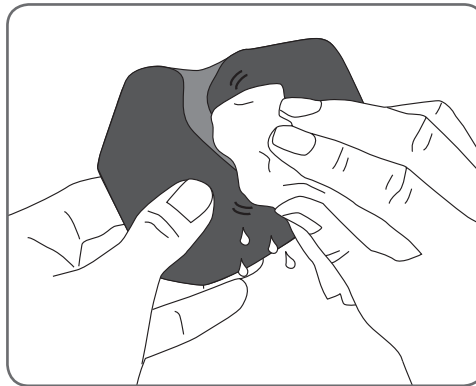

Figure 8-5: Blotting the large cloth electrode.
3. Remove excess water from the large cloth electrode. See Figure 8-5.